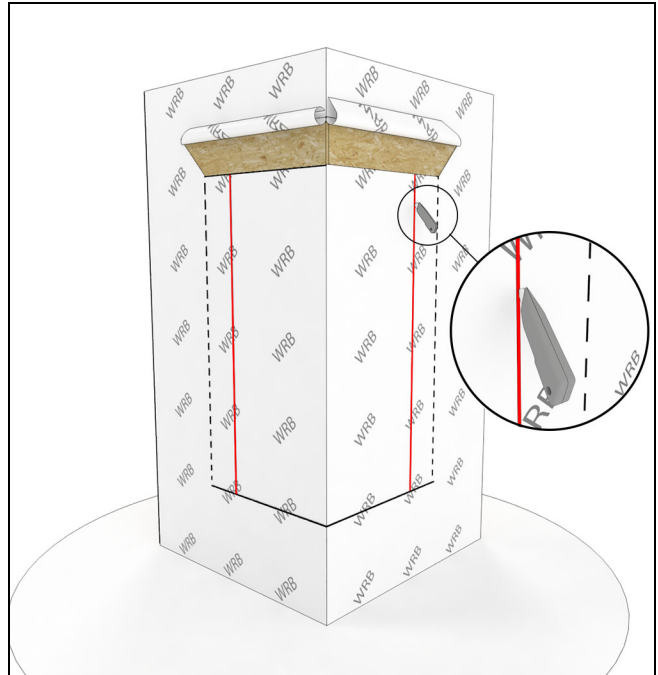

Figure 7
8. Make a vertical cut about 6" (152) from the sides of the rough opening running from the top to the bottom of the opening. See Figure 7